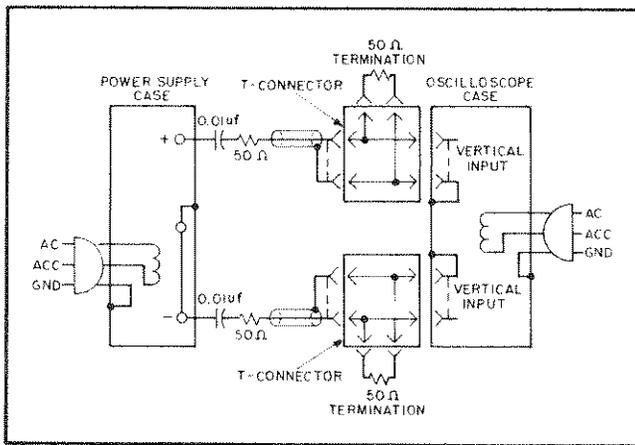

Figure 5-7. CV Noise Spike, Test Setup
1. As shown in Figure 5-7, two coax cables, must be substituted for the shielded two-wire cable.
5-30 The circuit of Figure 5-7 can also be used for the normal measurement of low frequency ripple and noise; simply remove the four terminating resistors and the blocking capacitors and substitute a higher gain vertical plug-in in place of the wide-band plug-in required for spike measurements. Notice that with these changes, Figure 5-7 becomes a two-cable version of Figure 5-6C.